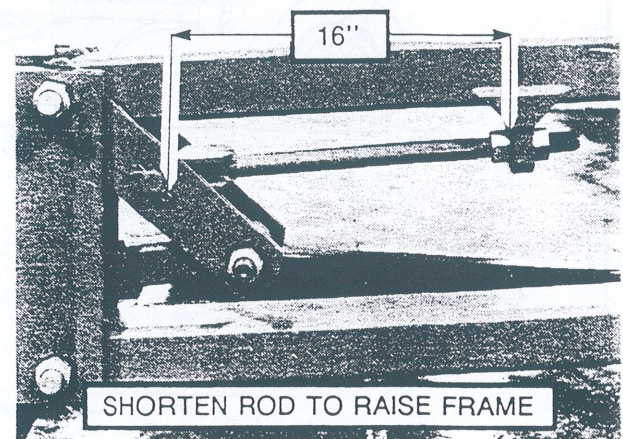

Figure 8
- (e) Adjust the Wing Gauge Wheel adjusting rod to measure 16" between the front of the pin and the rear of the lug. See Figure 8. Ensure front adjusting nut is tightened fully.